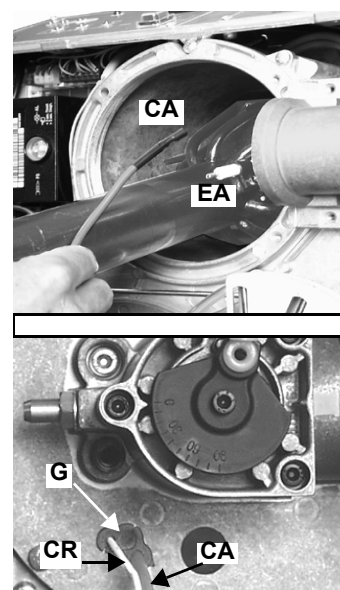

Fig. 32
- Check the ignition and detection electrodes, clean and adjust if necessary (see Fig. 32). In case of doubt, check the detection current according to the schemes in Fig. 36..
2 Remove the connector CR of the ionization electrode (Fig. 32).
3 Unplug cable CA of the ignition electrode EA (Fig. 32) and extract it from the flange by removing the rubber G (Fig. 32).